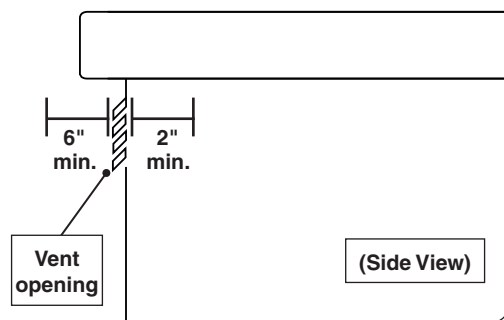

Fig. 8-2 Vent openings clearance
**One side of the enclosure shall be left completely open to the outside; OR 4 (minimum) ventilation openings MUST be created (reference Fig. 8-1 and Fig. 8-2):**
The clearance between the openings and any items outside of the enclosure is a minimum of 6". The clearance between the openings and any items within the enclosure is a minimum of 2". See Fig. 8-2.